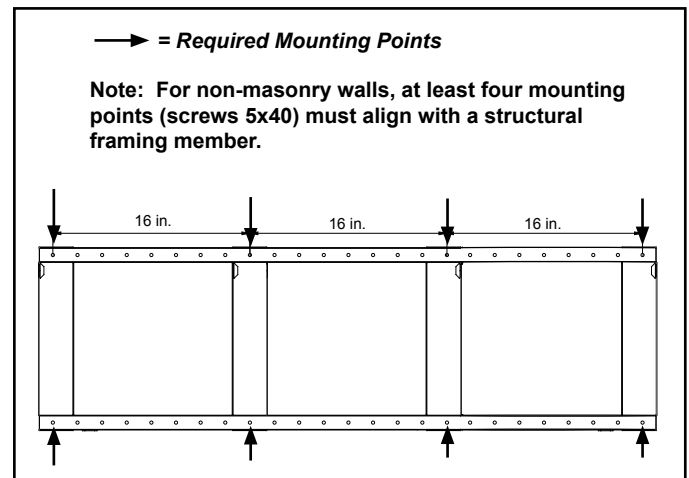

Figure 4.2 Mounting Bracket
- Mark eight locations on the wall that correspond to the eight required mounting points in the bracket. See Figure 4.2 & 4.8.